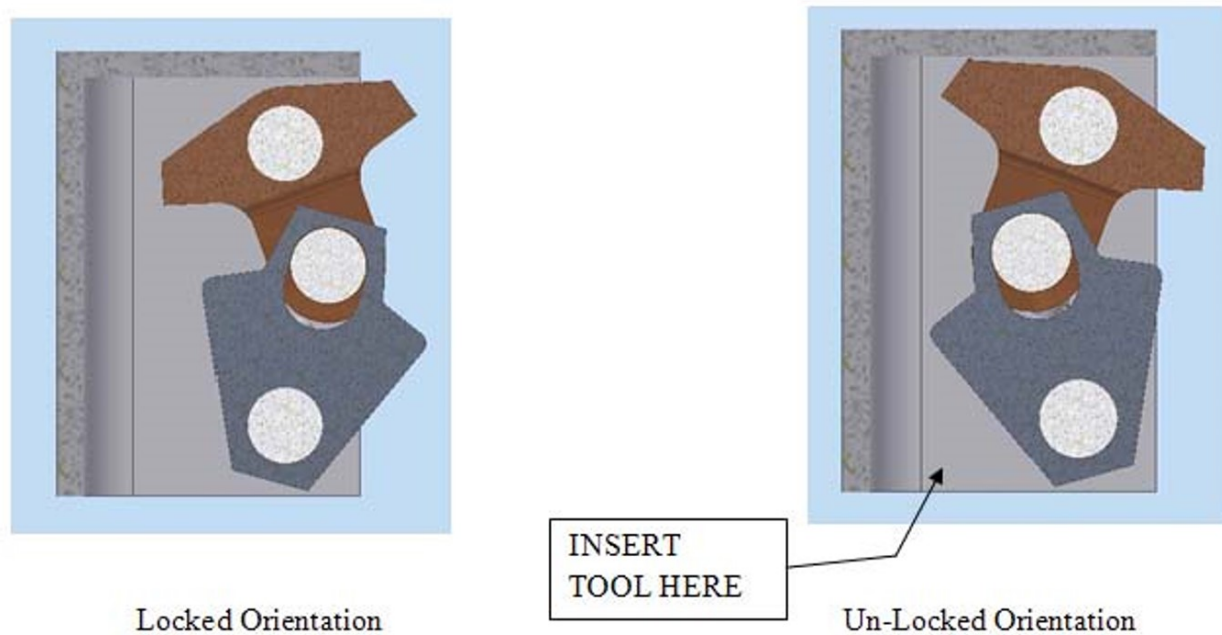

Figure 6-7 Lock Housing Ice Removal
5. If the mast continues to break ice during retraction but experiences trouble only near a locking transition, then ice has frozen inside the lock body. This ice in the lock body is interfering with the normal unlocking of the interfaces. To clear the ice, use a small, hard tool to reach inside the opening at the bottom of the housing. Manually chip and clear the ice from the internal parts, then set the latch to the proper "Locked" orientation, as illustrated in (Figure 6-7). Attempt to retract the mast again under electrical power.